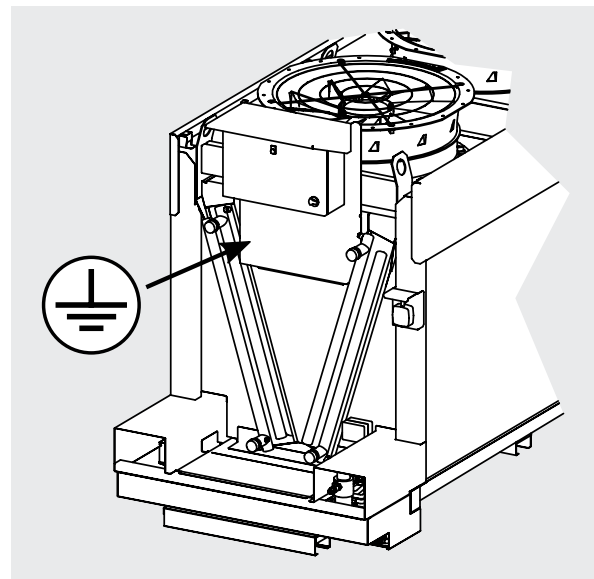

Figure 14
- 8.3 To minimise the risk of indirect contact, the electrical system can be earthed using the pin under the front cover. See Figure 14.